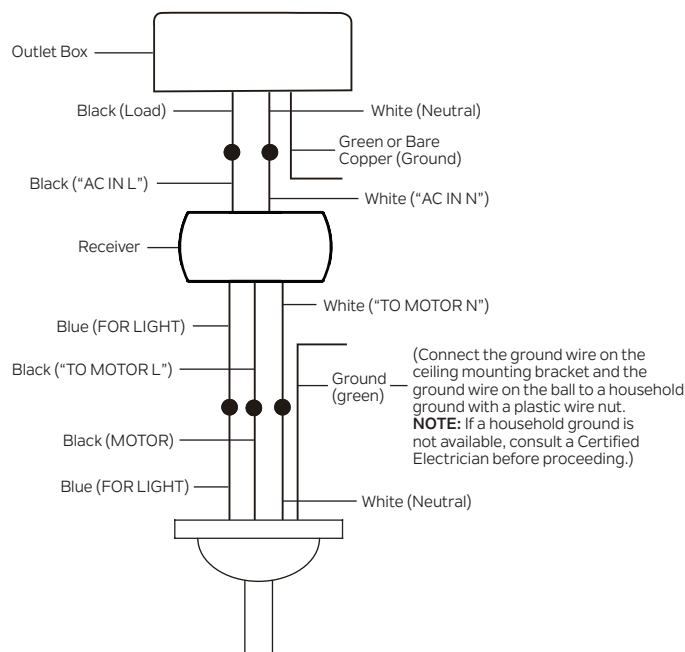

Fig. 2
Step 2. Fan Motor to Receiver Electrical Connections: (Fig. 2)
Step 3. Receiver to Supply Wires Electrical Connections: (Fig. 2)